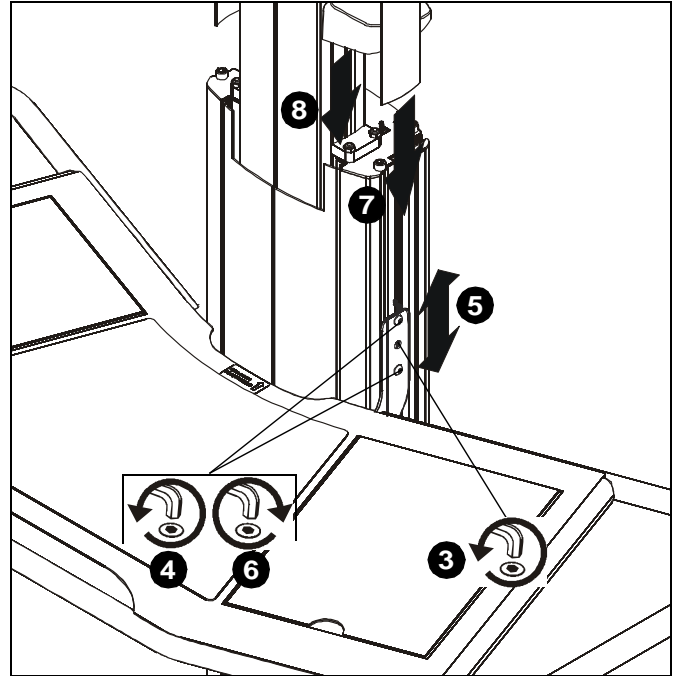

Figure 8
3. Loosen set screws on each side of shelf. (See Figure 8)
4. Loosen all button head cap screws holding shelf to column. (See Figure 8)
5. Adjust shelf height to desired level. (See Figure 8)
6. Tighten all button head cap screws holding shelf to column. (See Figure 8)
7. Reinstall side covers into side slots on cart/stand column. (See Figure 8)
8. Reinstall column inner cover to cart/stand column. (See Figure 8)